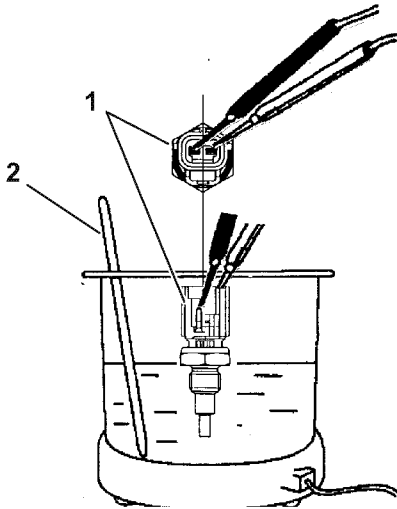

Figure 8-8
1. Inspect the engine coolant temperature sensor to make sure that it is properly operating. As shown in the following figure, connect an electric resistor to the coupler of the engine coolant temperature sensor (1, **Figure 8-8**).
2. Dip the engine coolant temperature sensor and an accurate thermometer (2, **Figure 8-8**) into the cooling water.